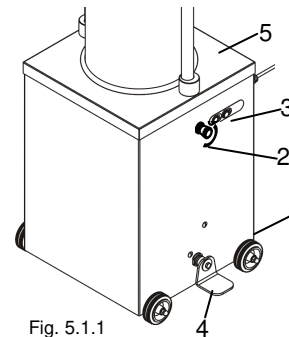

Fig. 5.1.1
When the machine is connected to the supply mains and after having pressed the start push button (fig. 5.1.1) press the pedal and check the movement of the plug in the cylinder. Bring the pedal into the correct central position and make sure that the piston stops.
- Press the start push button "3" (fig. 5.1.1).
Assemble the 16 Ampere plug (not provided) on the feeding calbe "1" of the machine (fig. 5.1.1) and connect it to an outlet with a differential switch that has the proper capacity and is placed ahead of it. In the three-phase version the rotation direction of the motor must be checked by proceeding in the following way:
1. Remove the back carter "5" fig. 5.1.1.
2. Put the differential switch in the position "I", press the start push button "3" in fig. 5.1.1 then press the pedal; at the same time check that the motor turns in the direction indicated by the arrow located on the electrical motor.